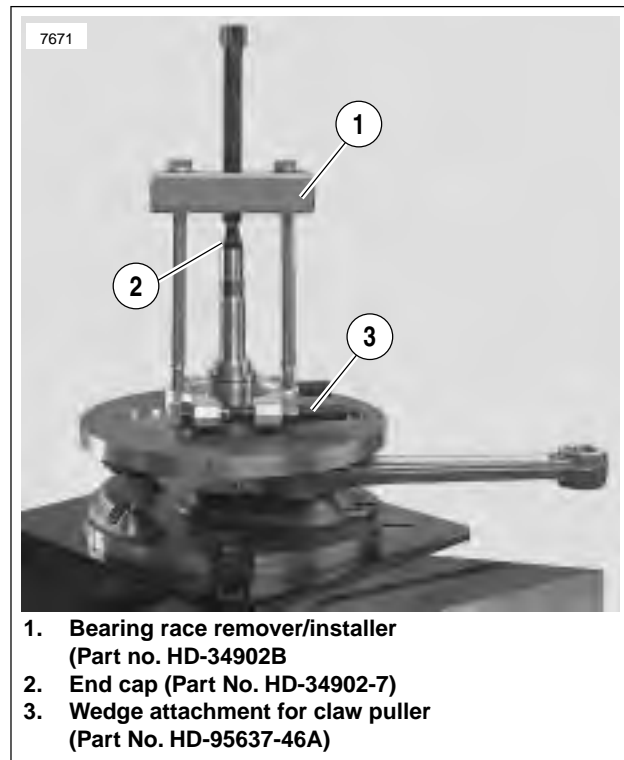

Figure 3-125. Pulling Pinion Shaft Inner Race
13. See Figure 3-125. To remove pinion shaft inner race, use WEDGE ATTACHMENT for CLAW PULLER (Part No. HD-95637-46A) with BEARING RACE REMOVER/INSTALLER (Part No. HD-34902B) and END CAP (Part No. HD-34902-7). Apply heat to race to aid removal. Four sizes of pinion bearings are available. Pinion bearing selection at the factory, during engine rebuild, or replacement of crankcase set or flywheel assembly is based on the largest measured outside diameter (OD) of the inner race and the smallest measured inside diameter (ID) of the outer race (crankcase bushing). A running clearance of 0.0002-0.0008 in. (0.0051-0.0203 mm) is established during crankcase set or flywheel assembly replacement and engine rebuild.